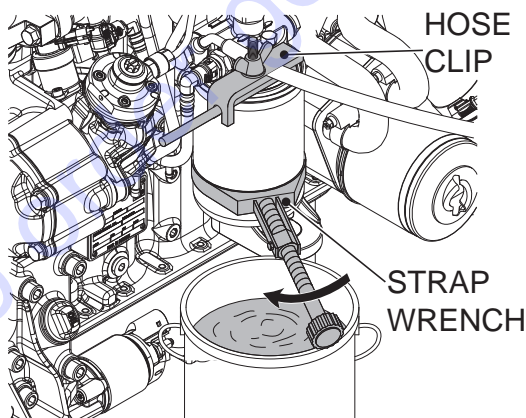

Figure 51. Fuel Fine Filter
1. Block the fuel feed line using the hose clip (Figure 51).
3. Unscrew the fuel fine filter with a strap wrench (Figure 51) and dispose of the filter according to local environmental regulations.